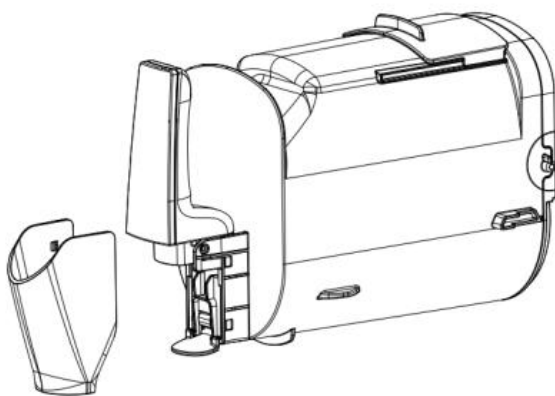
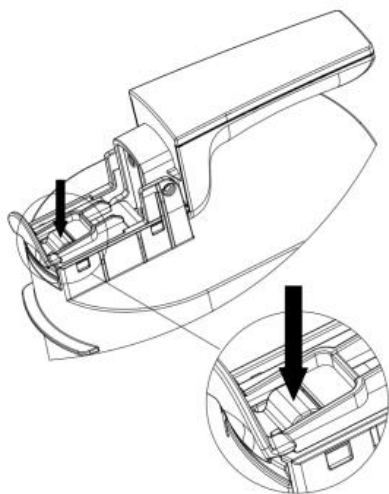

Figure 4
Figure 5
3. Outlet port cleaning: Take out the outlet cover (Figure 4), press and hold the outlet bracket fastening position (Figure 5), then open the barrel handle, and then take off the outlet assembly (Figure 6), clean it, and put it back in the order of disassembling and assembling.